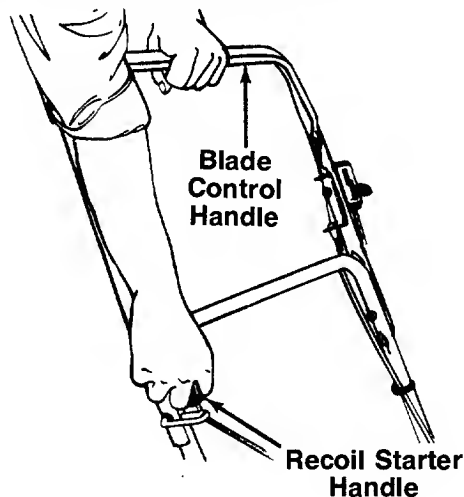

FIGURE 15.
5. Standing behind the unit, depress the blade control handle and hold it against the upper handle as shown. See figure 15.